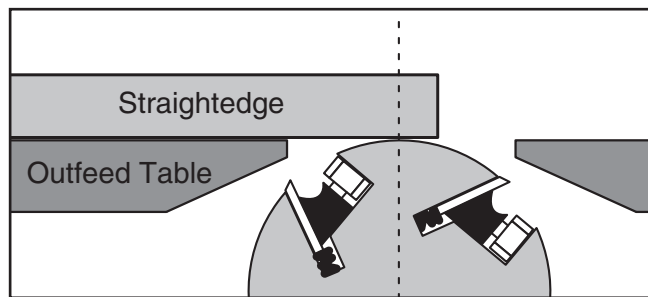

Figure 48. Adjusting outfeed table even with cutterhead body (knife-style cutterhead shown).
4. Rotate motor pulley so that you can access cutterhead body with straightedge between the knives/inserts, as shown in **Figure 48**.